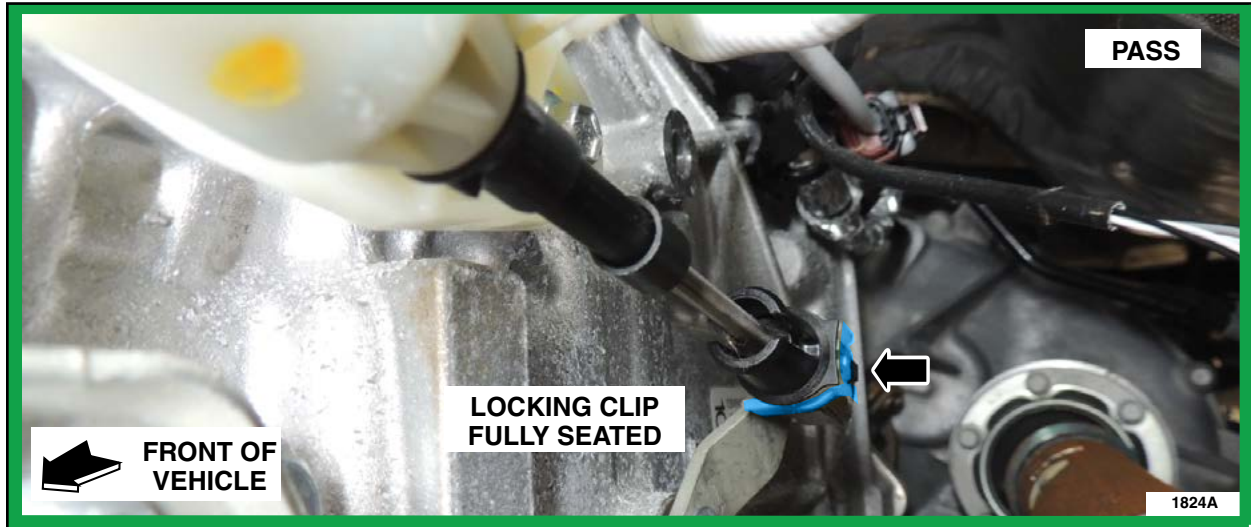

FIGURE 2
4. Inspect the selector lever cable adjuster locking clip to ensure it is fully seated. See Figures 2 and 3.
- If the cable adjuster locking clip is fully seated as shown in Figure 2, proceed to Step 10.